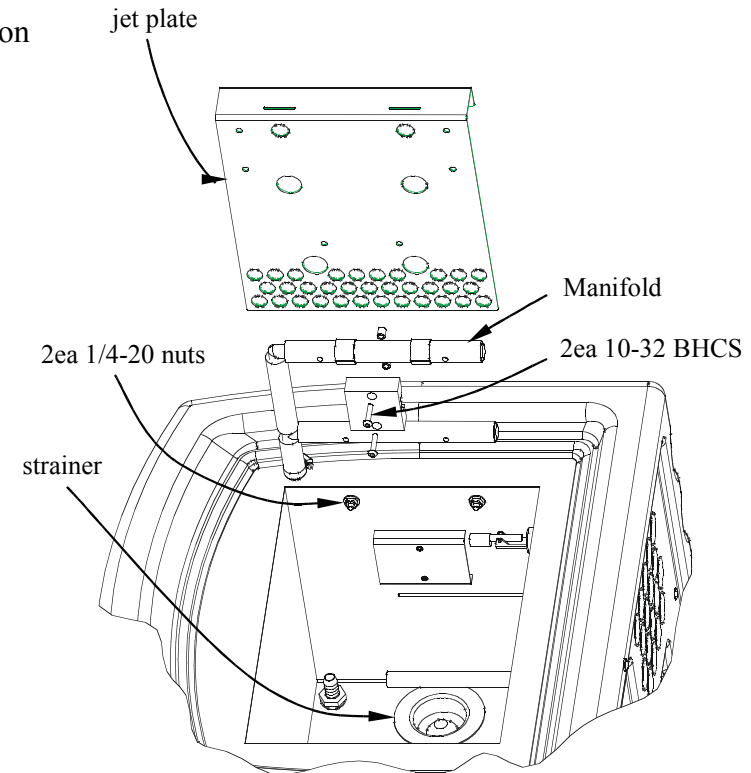

Figure 4
- (1) Unplug and drain the CleanStation™ per the Operating instruction step 10 (remember to wear safety protection).
- (2) Remove and dry the tank lid before placing on another surface. If removing the material does not increase the circulation move onto step 3.
- (3) Inspect the suction strainer (see Figure 4) and remove any material deposits. It may be necessary to replace the strainer if the mesh becomes excessively coated with deposits.
- (4) Using a 7/16" socket, loosen (but **do not** remove) the 1/4"-20 nuts (see Figure 4) located behind the holes at the top of the jet plate. Remove the jet plate by lifting using the top holes provided for the 1/4"-20 nuts. As with the tank lid, dry before setting aside.
- (5) If a significant amount of material is found and removed from the suction strainer, the manifold may not need cleaning; skip to step (9) to re-install the jet plate. If the manifold appears to have material blocking the holes, proceed to the next step (6) to remove and clean the manifold.
- (6) Using a 5/16" socket, loosen the hose clamp connecting the manifold the the hose and remove the 8-32 nuts with a 3/8" socket. Then completely remove the pipe clamps and manifold (see Figure 4).